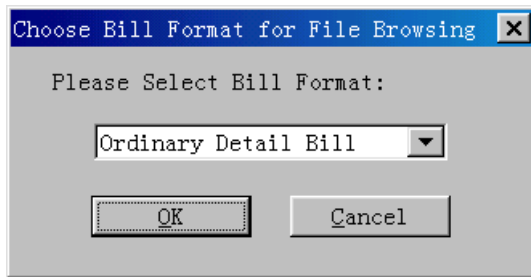

Figure 3-9 [Choose CDR Format for File Browsing] dialog box
- 2) Double-click a CDR file. The [Choose Bill Format for File Browsing] dialog box is displayed, as shown in Figure 3-9.